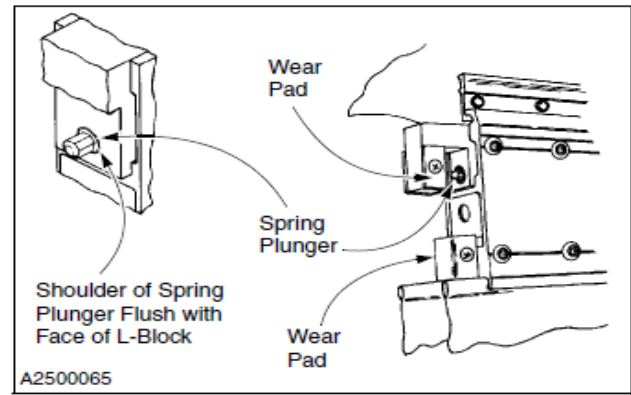

Figure 26
2. With both end brackets disconnected from the bottom bar assembly, check the wear pads on each end of the bottom bar for excessive wear or damage. Replace pads if required. (See Figure 26)
NOTE: The normal position of the spring plunger is as shown in Figure 26. If your door is subject to high wind conditions, increase the holding strength of the plunger by adjusting it out a few turns. (Moving it too far out could make it difficult for you to reassemble the bottom bar.)